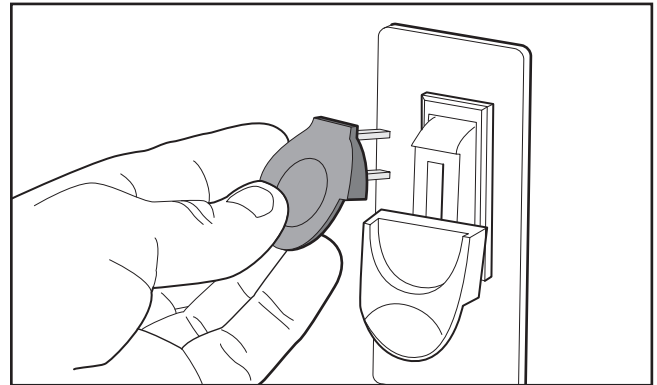

Figure 24. Removing switch key from paddle switch.
4. Remove switch disabling key, as shown in **Figure 24**.